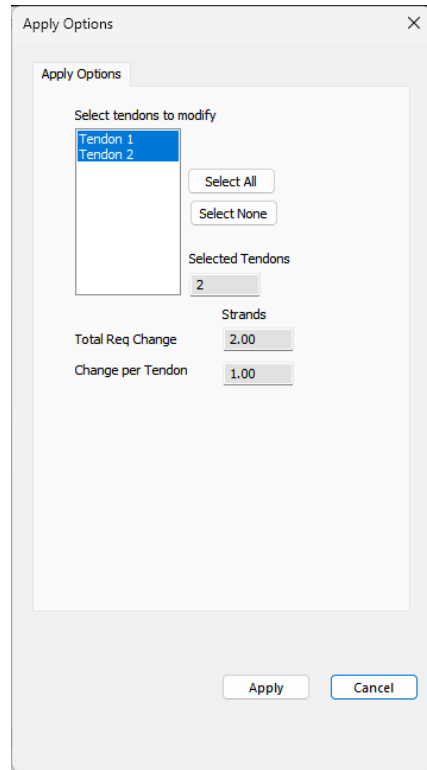

FIGURE 9-102
- Click the **Apply to Model** button. This will open the *Apply Options* window as shown in **FIGURE 9-102**.